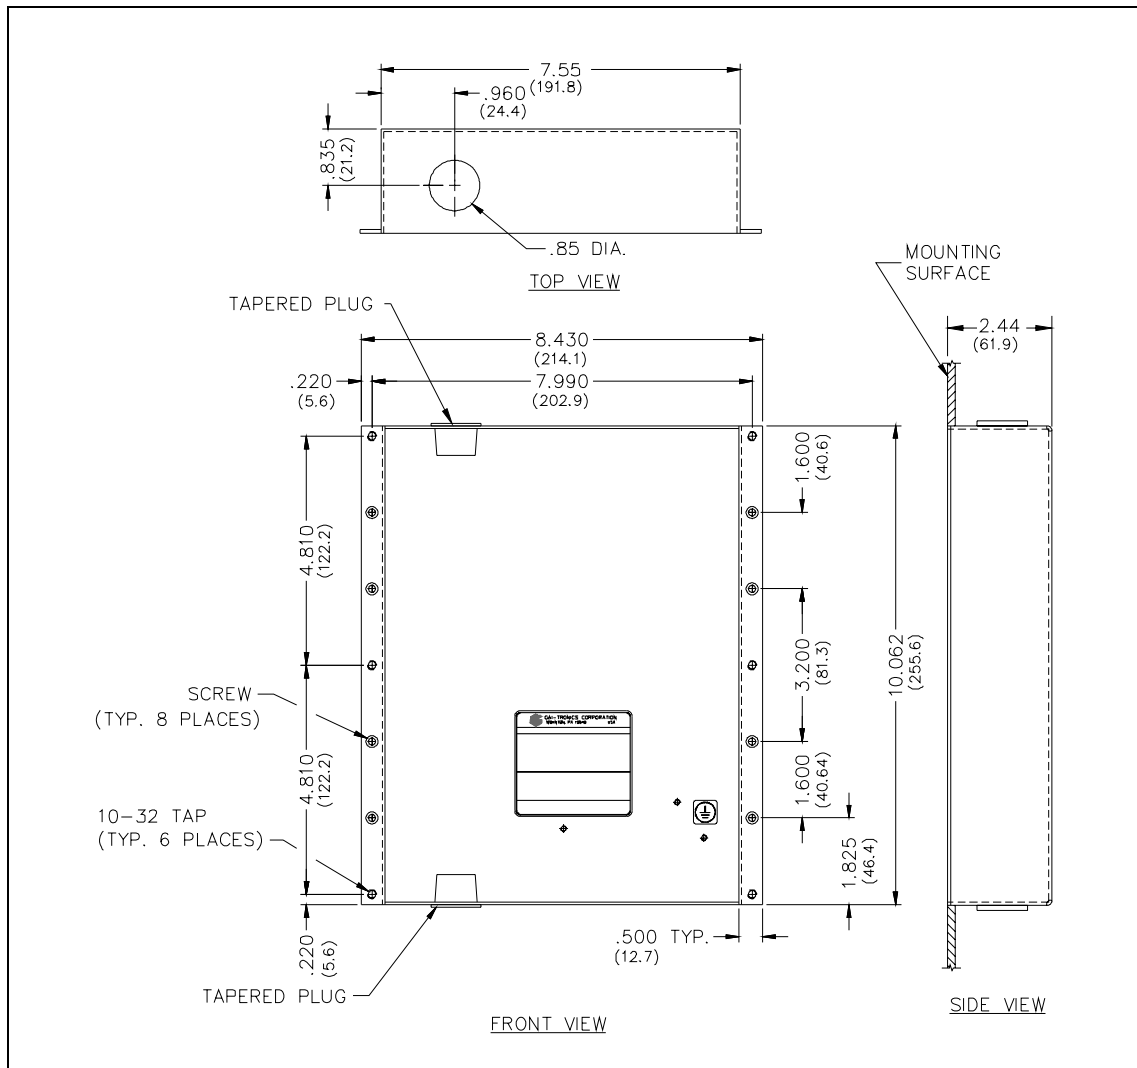

Figure 11. Model 297-101 and 298-101 Mounting Details
1. When mounting in a GAI-Tronics Model 234 Series Stanchion or for flush-mount installations, the supplied back box must be used to mount the Model 297-101 or 298-101 Telephone. Mount the back box to the structure using the appropriate hardware. Refer to Figure 11 cutout dimensions.